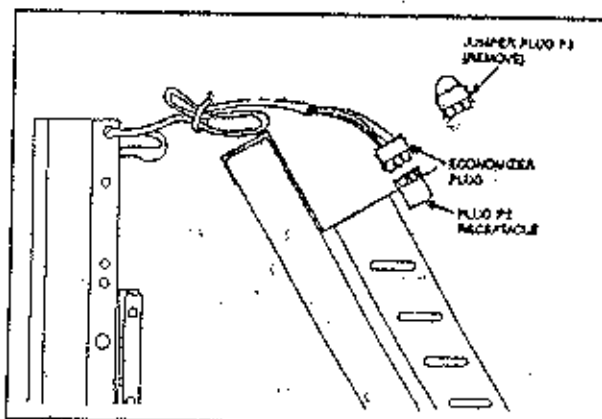

Figure 2
6. Route economizer plug harness to unit plug assembly. (See Figure 2). Remove Plug #3 from Plug #2 in unit. Connect the economizer control plug (9 pin male) to unit Plug #2 (9 pin female).